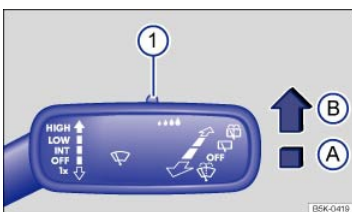

Fig. 97 Windshield wiper lever: Adjusting the rain sensor ① (if equipped).
The rain sensor's sensitivity can be adjusted manually ⇒ Fig. 97① ⇒ ▲.